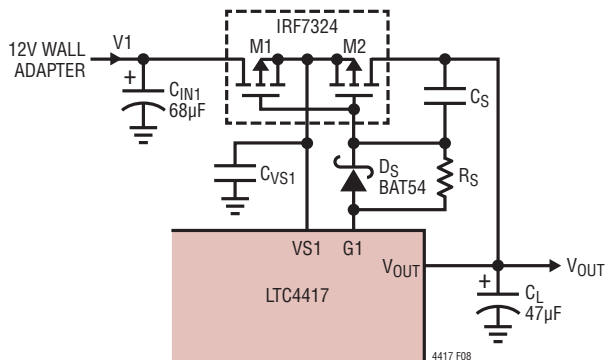

Figure 8. Slew Rate Limiting Gate Drive
Equation (13) assumes no inrush current limiting circuitry is required. If it is required, refer to Figure 8 and use the following Equation (14) for C_L.
where R_S and C_S are component values shown in Figure 8. The selection of R_S and C_L involves an iterative process. Begin by assuming $0.79 \cdot R_S \cdot C_S = 10\mu s$ and choosing C_L using Equation (14). See the Inrush Current and Input Voltage Droop section for more details regarding inrush current limiting circuitry, and for selecting R_S .
In situations where input and output capacitances cannot be chosen to set the desired maximum input voltage droop, or the peak inrush current violates the maximum Pulsed Drain Current (I_{DM}) of the external P-channel MOSFETs, inrush current can be limited by slew rate limiting the output voltage. The gate driver can be configured to slew rate limit the output with a resistor, capacitor and Schottky diode, as shown in Figure 8. The series resistor R_S and capacitor, C_S , slew rate limit the output, while the Schottky diode, D_S , provides a fast turn off path when G1 is pulled to VS1.